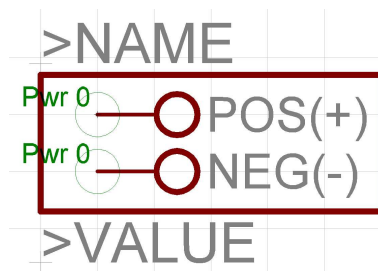

Figure 4.3: Final 2 pin terminal block schematic symbol.
6. Draw the schematic symbol as shown in Figure 4.3.
- (d) *Draw the SYMBOL shape in Figure 4.3.* This will require using the wire and circle draw commands, but it will also require a change in the Grid size, Select **View** > **Grid** from the menu bar and enter a size of 0.01 inch.